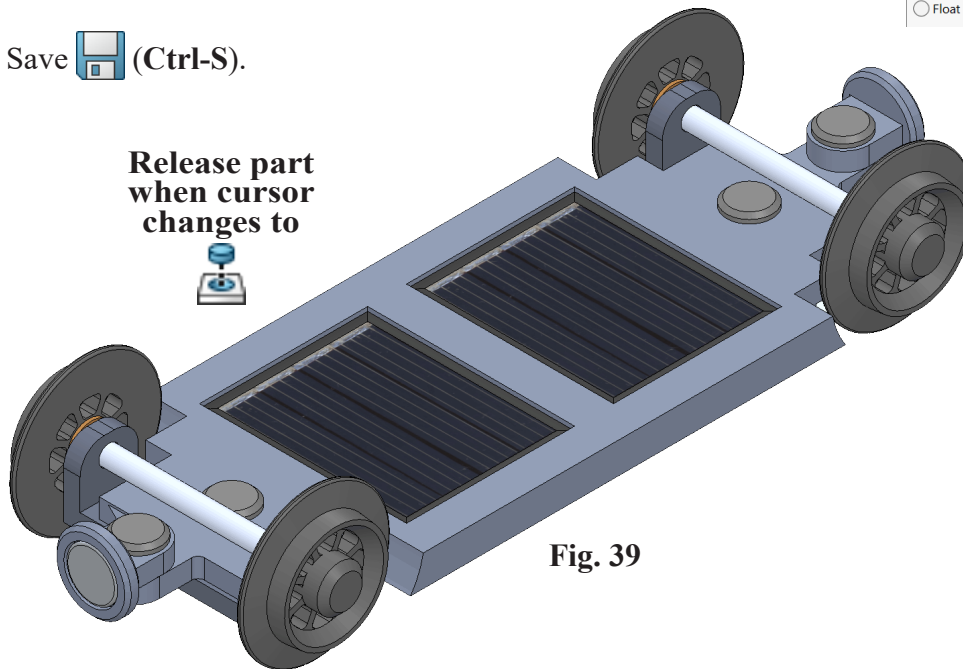

Fig. 39
Step 4. Move the **tip of your cursor to the edge of a Pin hole**, **Fig. 39**.
Step 5. Continue and place a Pin in each hole, **Fig. 39**.